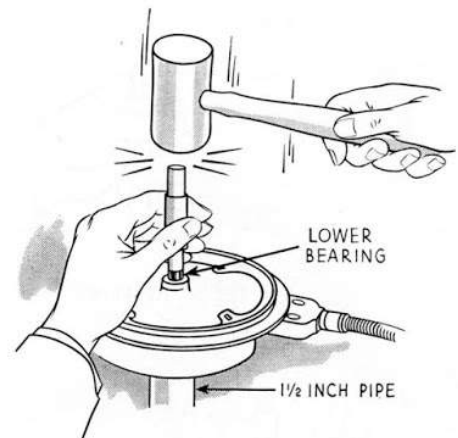

FIG. 60—Driving out lower solid bronze sleeve bearing
3. Using the drift pin, remove the old lower bearing by driving it down through and toward the inside of the motor casing. See Figure 60.